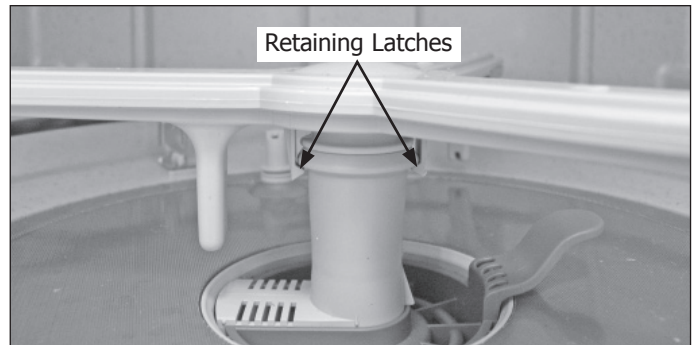

Figure 4-15.
3. The lower spray arm has two retaining clips securing it to the lower spray arm support. Use a flat bladed screwdriver to release the clips, then pull the lower spray arm from the lower spray arm support. (See Figure 4-15)